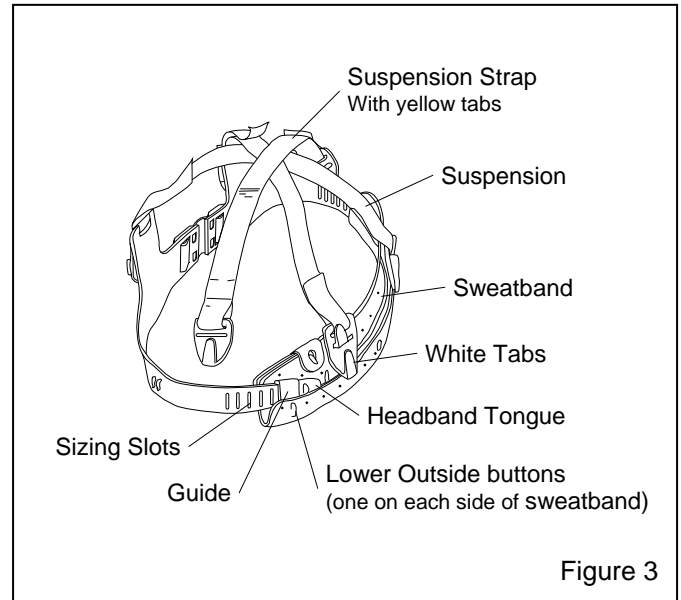

Figure 3
6.1 Suspension, Ref. Figure 3
6.1.2 Unfasten the vinyl sweatband from the two lower, outside buttons, ref. Figure 3. It is not necessary to remove the suspension to make adjustments.